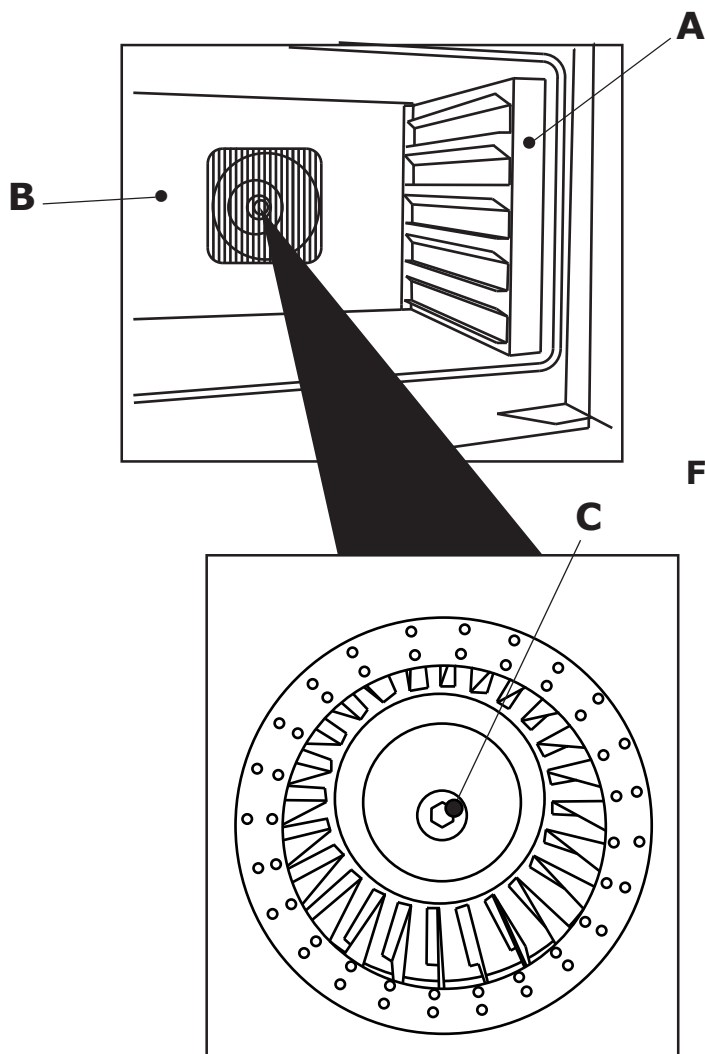

Fig. 15
- remove the rack supports (**A-Fig.15**) and fan cover-grid (**B-Fig. 15**);
- unscrew the fan stop nut (**C-Fig.15**) turning anticlockwise .
- unscrew the 3 nuts (**D-Fig. 15**) supporting the motor and remove the motor;
- Remove the rack supports (**A-Fig.15**) and fan cover-grid (**B-Fig. 15**) to reach cooking chamber heating elements.